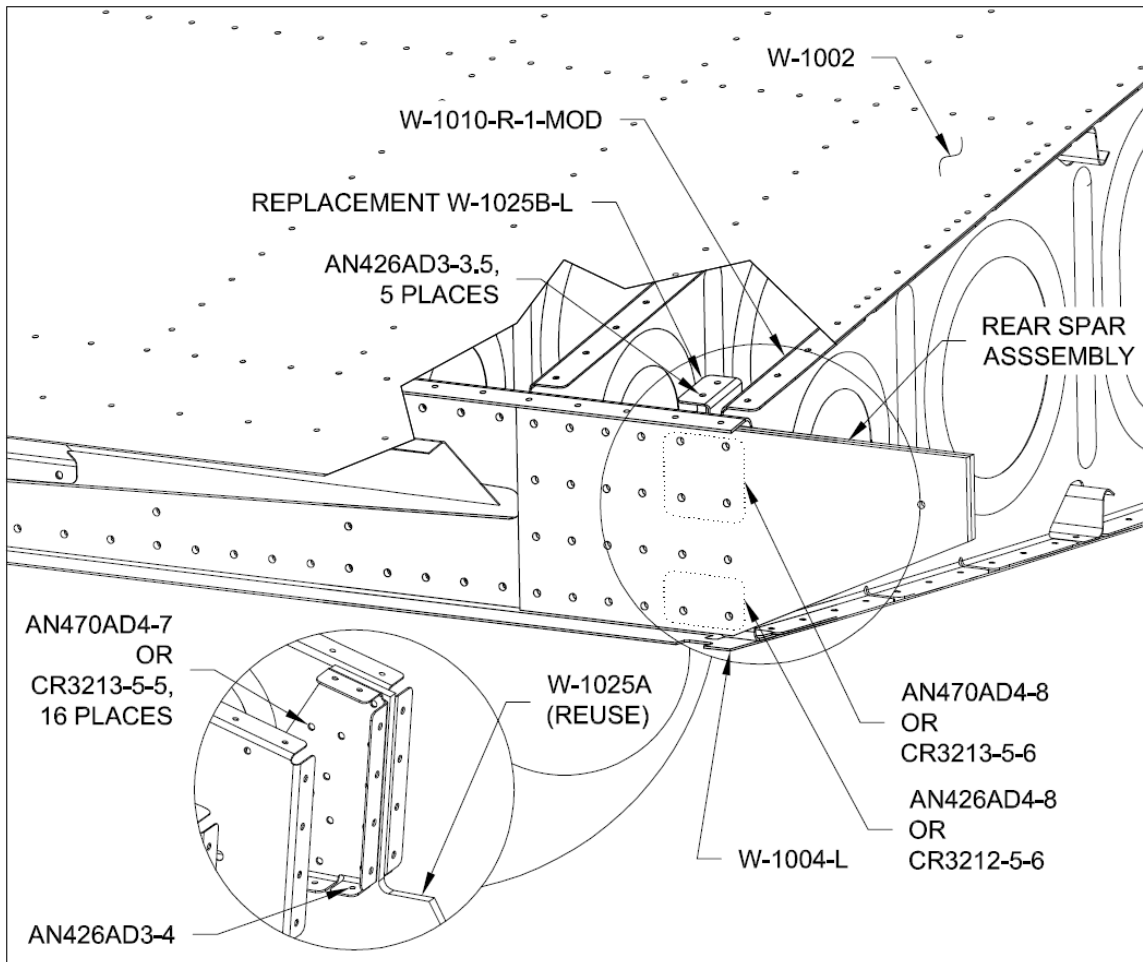

FIGURE 7: RIVET CALL-OUTS FOR REAR SPAR AREA
Step 29: Cleco the replacement W-1025B-L into position as shown in Figure 7.
Step 30: Cleco the W-1010-R-1-MOD into position as shown in Figure 7.
Step 31: Cleco the W-1025A into position between the W-1025B-L and W-1010-R-1-MOD. See Figure 7.
Step 34: Cleco the W-1025B-L into the wing, and rivet to the W-1002, W-1004-L, and Rear Spar Assembly as shown in Figure 7. Note the single instance of a longer rivet required in the aft-most hole in the bottom flange of the W-1025B-L as called out in the detail view of Figure 7.
Step 36: Rivet the W-1010-R-1-MOD to the Rear Spar Assembly using the rivets called out in Figure 7.
Step 37: Cleco and then rivet the W-1025A to the W-1025B-L and W-1010-R-1-MOD as shown in the detail view in Figure 7.